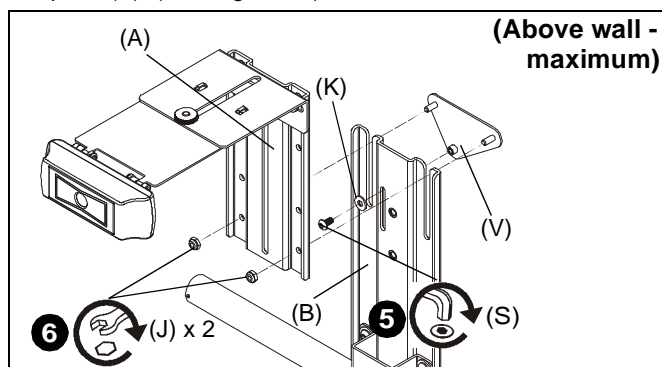

Figure 23
- (For **maximum extension**) Use #10-32 x 3/8" button head cap screw (S) and small washer (K) to secure adapter plate (V) to main bracket (B). (See Figure 23)
- (For **maximum extension**) Use two #10-24 lock nuts (J) to secure upright bracket (A) to main bracket (B) and adapter plate (V). (See Figure 23)